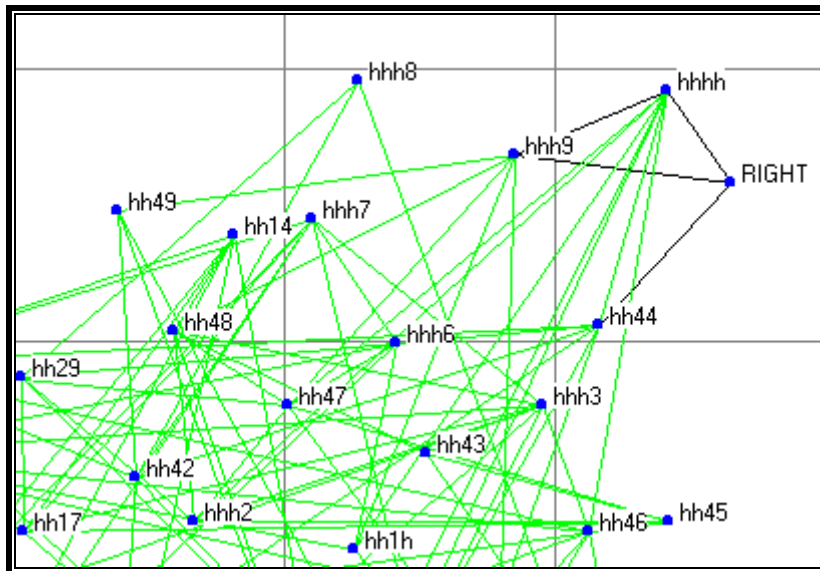

Figure 1-11
- 2) Unprocessed enabled vectors will be highlighted in **black** color (e.g., hhh9 → hhhh, hh4 → RIGHT in Figure 1-11)